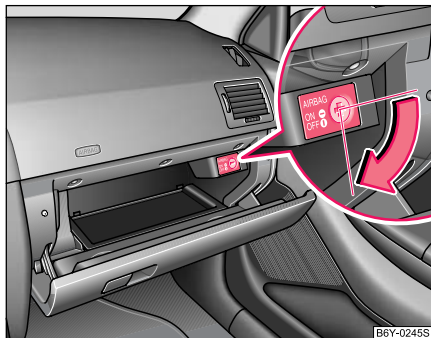

Fig. 105 Storage compartment: Switch for the front seat passenger airbags
- Turn the slot of the airbag switch using the ignition key in the direction of the arrow to the position **OFF** ⇒ fig. 105. The slot of the airbag switch must be located in the vertical position.
- Turn the slot of the airbag switch using the ignition key in the direction of the arrow to the position **ON** ⇒ fig. 105. The slot of the airbag switch must be located in the horizontal position.